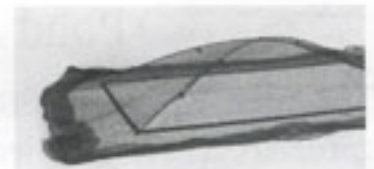

Fig.6
6. Cover the structure with the net. (Fig.6)